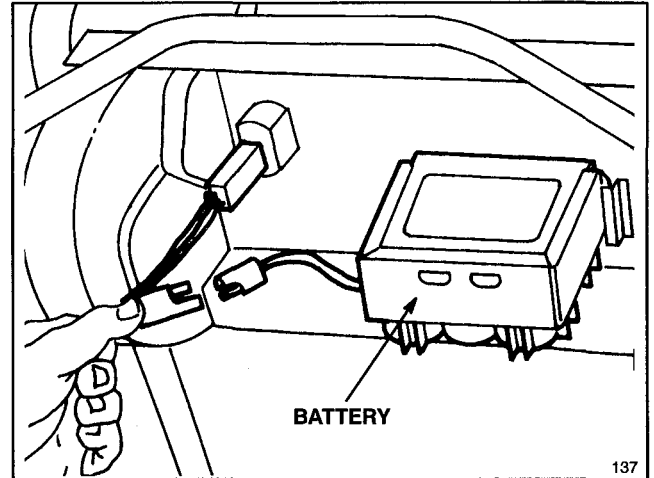

Figure 4
1. Refer to Charging Battery, page 14. Slide battery, decal side up, between mounting tabs on back of control panel and connect wires (Fig. 4). Insert key into switch when ready to start engine.